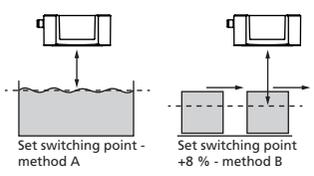

Fig. 3: Teach-in for different directions of movement of the object
■ In the »Set switching point – method A« Teach-in procedure the actual distance to the object is taught to the sensor as the detect point. If the object moves towards the sensor (e.g. with level control) then the taught distance is the level at which the sensor has to switch the output (see Fig. 3).